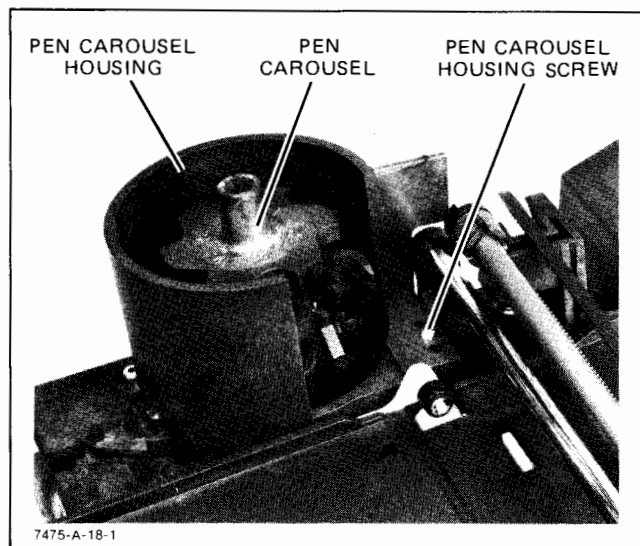

Figure 6-9. Pen Carousel Housing
- c. Remove the screw that secures the pen carousel housing to the chassis assembly. See Figure 6-9.